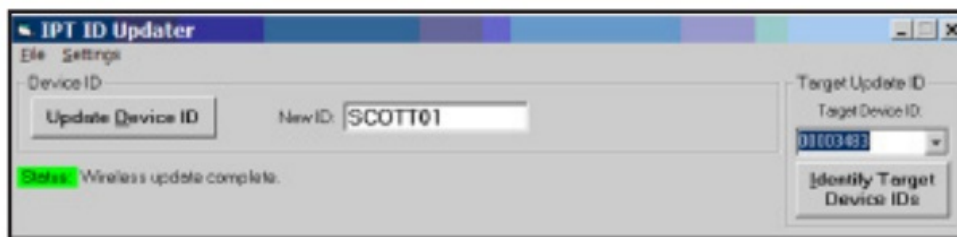

FIGURE 11
10. When the Update is successful, you will see the screen shown in FIGURE 11.